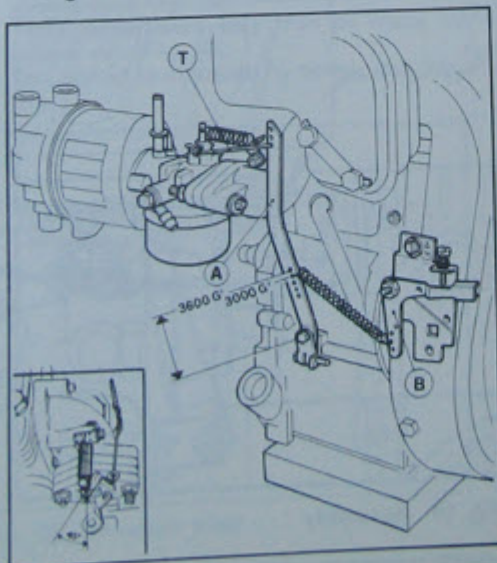
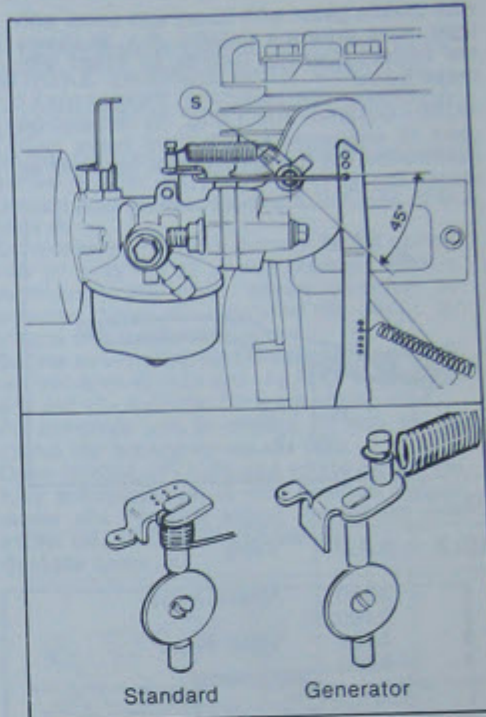

Fig. 14
Fig. 15 Standard and generator spring position
On above engines the position of the carburettor is different and therefore small changes on the governor linkage are necessary. HBP/G and HBL/G engines are mainly used on generators and therefore usually run with fixed speed at 3.000 r.p.m. Fig. 14 shows external assembly.
- There are nine alternative holes at the bottom of the arm. The long control spring being fitted to the first hole (3.600 r.p.m.) or to the second hole (3.000 r.p.m.). The opposite end of the spring is hooked to the third hole of the control lever «B» in Fig. 14. The shortest spring for carburetor butterfly is hooked to the bracket as in Fig. 15. This short spring differs also from
the normal spring used on other horizontal shaft engines (Fig. 15).